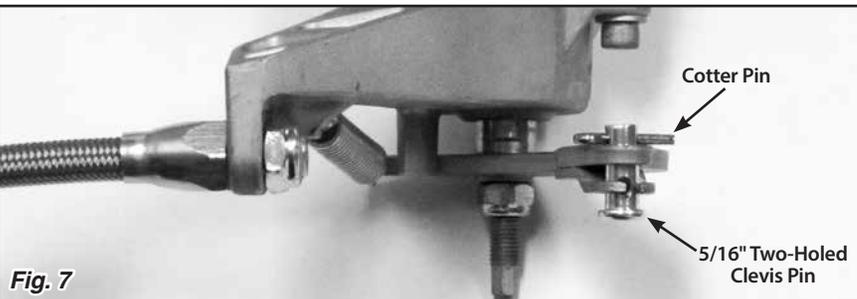

Fig. 7
Step 7: Install the 5/16" two-holed clevis pins and cotter pins onto the caliper levers as shown in **Fig. 7**.